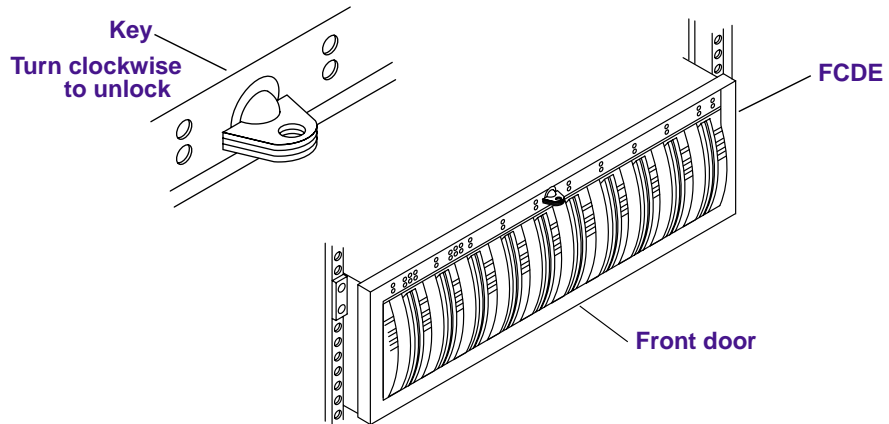

Figure 1-7 Opening the FCDE Front Door
3. Open the front door on the FCDE. If the door is locked, locate the key in the fibre-channel kit and unlock the door (see Figure 1-7).
1. Open the front door on the FCDE (see Figure 1-7).